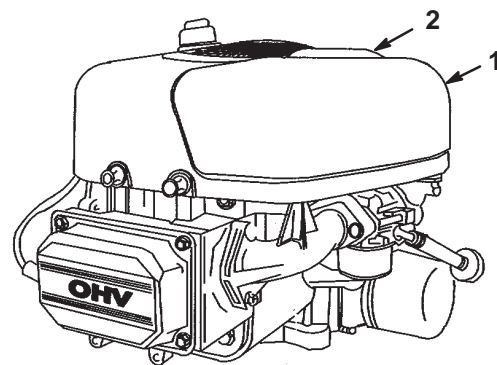

Figure 17
- Clean around the air cleaner to prevent dirt from getting into the engine and causing damage. Pull up on the air cleaner cover handle and rotate it toward the engine (Fig. 17). Remove the air cleaner cover.